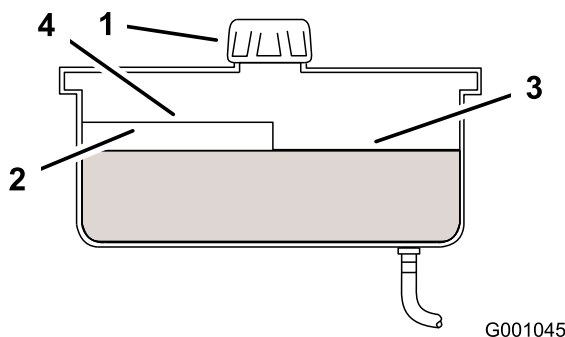

Figure 58
4. Clean area around cap and filler neck of hydraulic tank (Figure 58).
6. Look inside to check the fluid level in the reservoir. (Figure 58).
Note: The fluid level should be to the top of the hot level of the baffle, when the fluid is warm (Figure 58).